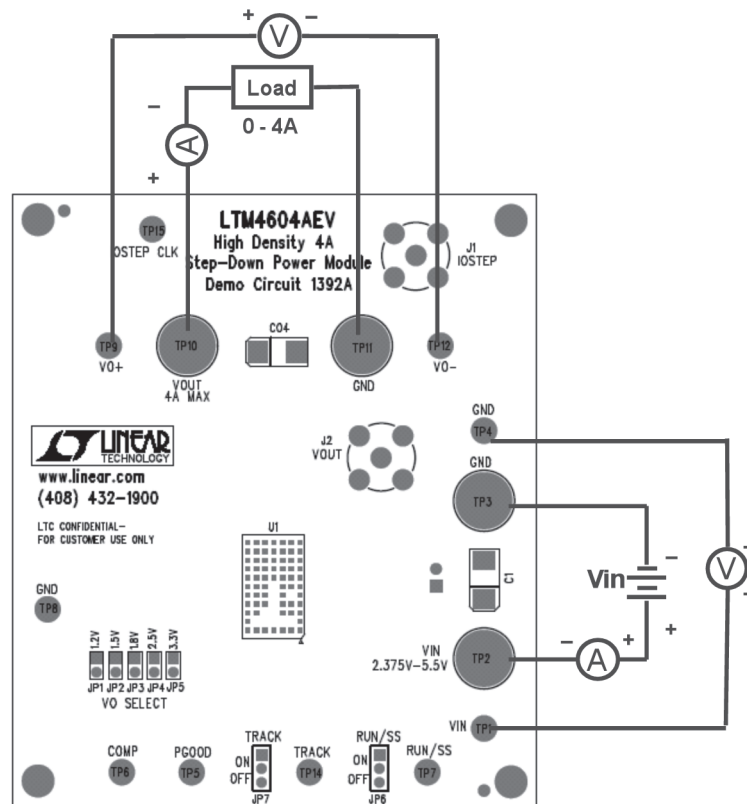

Figure 1. Test Setup of DC1392A
Demonstration circuit 1392A is an easy way to evaluate the performance of the LTM4604AEV. Please refer to Figure 1 for proper measurement equipment setup and follow the procedure below:
2. With power off, connect the input power supply, load and meters as shown in Figure 1. Preset the load to 0A and VIN supply within the operating range of the LTM4604A.